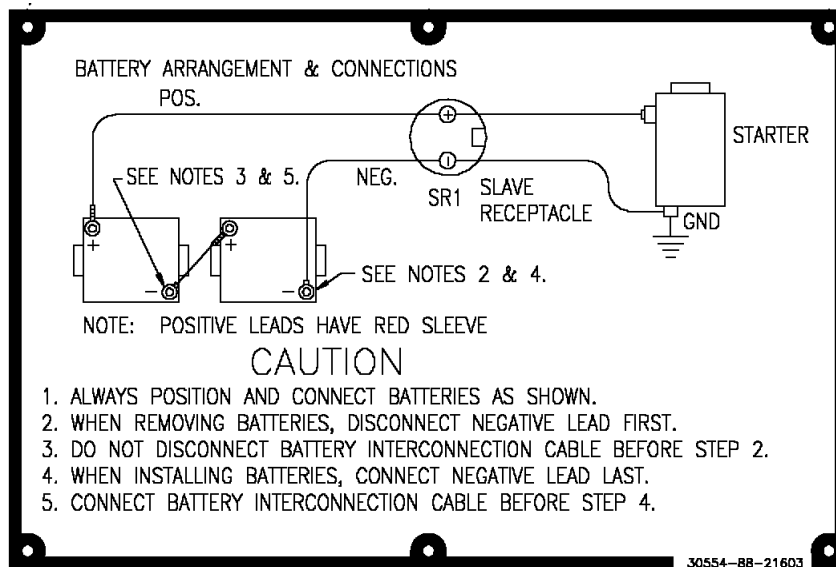

Figure 1. Battery Connection Instruction Plate
1. Disconnect the batteries in accordance with BATTERY CONNECTION INSTRUCTION PLATE, figure 1, located in the battery compartment.
6. Re-connect batteries in accordance with the Battery Connection Instruction Plate, figure 1.